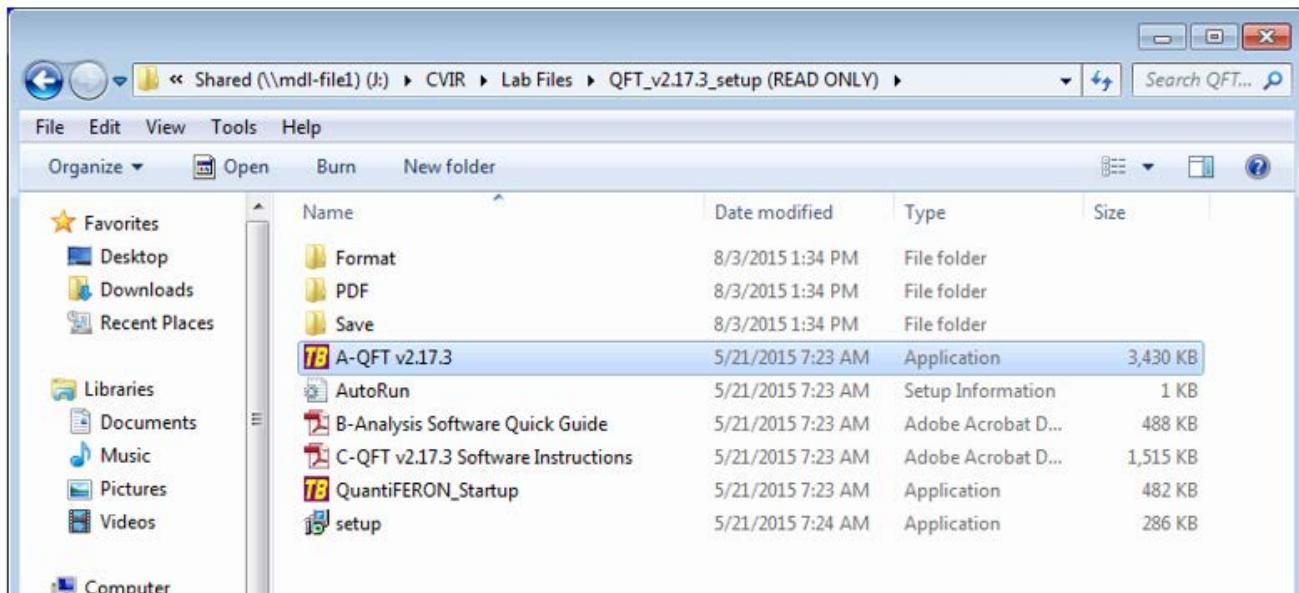

Figure 1
- For QFT select QFTB_gold_v2.17.3_setup (READ ONLY) and follow direction below starting with Figure 1.